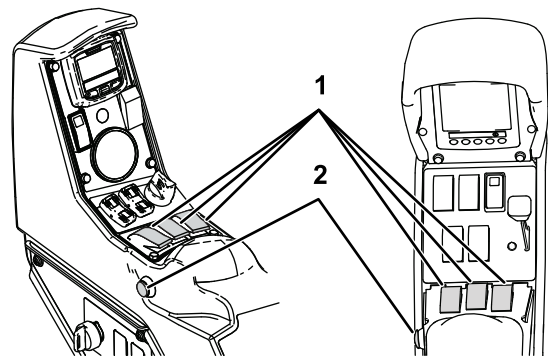

Figure 16
- To start spraying, press the master switch to the ON position (Figure 16).
- Press the section switches (located between the seats) to the ON position (Figure 16).
- To start spraying, press the section switches (located between the seats) to the ON position (Figure 16).